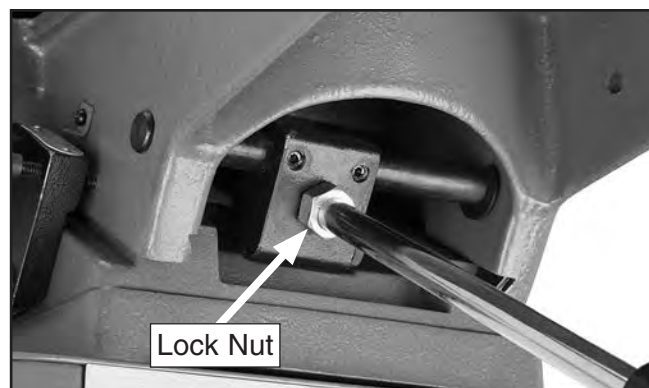

Figure 29. Infeed lever installed.
30. Thread the infeed table lever into the hole shown in **Figure 29**, and tighten the M12-1.75 lock nut.